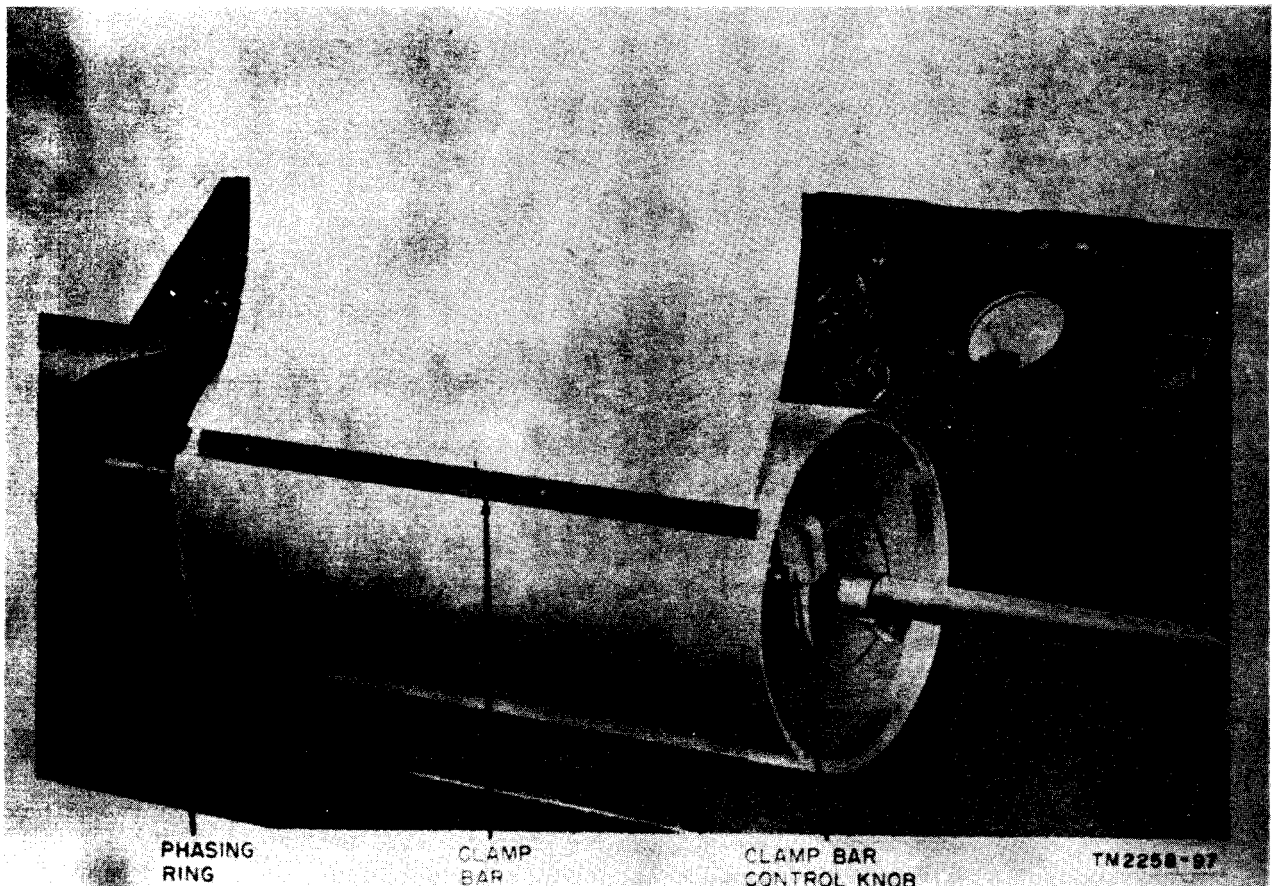

Figure 17. Loading drum with direct recording paper.
- (1) The clamp bar control knob (fig. 17) is located on the right side of the rotating drum. It is used to open and shut the clamps that hold copy to the drum and can be operated only when the motor is not running and the drum is not rotating. This knob has three positions:
- (1) Cut the copy to be transmitted to a size no larger than 12 by 18 5/8 inches. Keep the actual message for transmission to 12 x 17½ inches for both photographic and direct recording.
- (2) Fasten captions on the copy to be transmitted with scotch tape or write them on the copy with either ink or pencil.
- (3) Throw the power ON-OFF switch of the transceiver to the ON position. Turn the selector switch to the SET RANGE position. Wait for the high-pitched 1,800-cycle tone. (There is no audible tone when the selector switch is in STANDBY position and the STANDBY-MON-TALK switch is in the STANDBY position.) Normally, a 10-minute warm-up period should be allowed before transmitting. The dust removal blower ON-OFF switch should be in OFF position when the equipment is in use as a transmitter.
- (4) Press backward on the engaging lever, on the left end of the drum mechanism, to disengage the drum from the lead screw. Push the drum to the right-hand end of the lead screw. Turn the drum so the clamping bar is on top.
*b. Placing Copy on Drum (fig. 17).*
- (1) Raise one edge of the clamp bar by turning the knob on the right end of the drum to its clockwise position. Place the lower edge of the copy, face up, under the rear edge of the clamp bar. Turn the knob to its counterclockwise position to set the clamp and open its other edge. Revolve the drum, wrapping the copy
- (1) Move the drum so that the spot of light shines directly on the raised phasing ring at the left end of the drum (fig. 17). The STANDBY-MON-TALK switch may be in the MON or STANDBY position, and the selector switch is at SET RANGE. Operate the START switch and hold it engaged until the motor starts and the drum picks up speed to slightly more than 60 rpm, which is the normal operating speed. (Do not race the motor; 2 to 4 revolutions of the drum should be sufficient.) Release the START switch. The drum will slow down to a synchronous speed of 60 rpm as indicated by the 1,800-cycle audible tone from the motor laminations.
- (1) Turn the selector switch on the facsimile transceiver to the STANDBY position and make initial preparations.
- (2) Turn off all lights in the darkroom except the safelight.
- (3) Open the box of photographic paper, remove a single sheet, and close the box.
- (4) Load the drum in the same manner as for loading with direct recording paper, but be sure to leave approximately one-fourth inch of space between the phasing ring and the paper.
*b. Receiving Copy.* Adjust the GAIN control and phase the transceiver as outlined in paragraph 28 for direct recording. In this position, the selector switch is on RECORD PHOTO, and the photographic paper or film may be ruined if the light of the recorder lamp falls on the paper. Care must be taken to perform these operations with the drum at the far right side of the lead screw, so that the light from the recorder lamp falls only on the aluminum drum (fig. 17). When the signal starts, leave the selector switch in the RECORD PHOTO position. Move the drum to the left approximately  $\frac{1}{4}$  inch until the beam from the recorder lamp shines on the extreme left-hand edge of the photographic paper. Engage the drum feed mechanism. Turn off the safelight. Turn it on occasionally to permit checking of the transceiver operation.